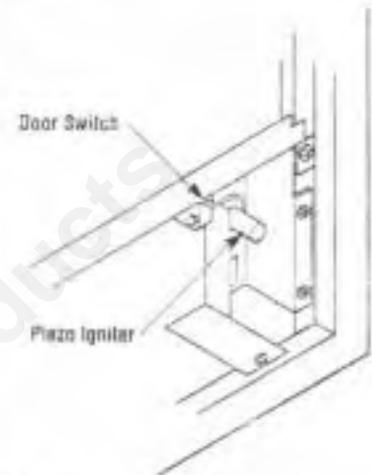
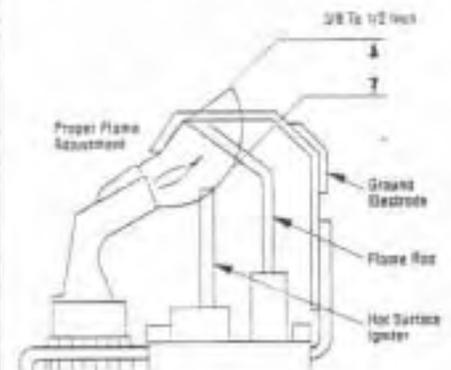

Figure 42
Figure 43
***Note:** To operate the appliance while leak testing, ensure that the door switch is depressed or the unit will not light (refer to Figure 42).
To light the burner, turn "ON" the remote wall switch, manually depress and hold the door switch (Figure 42) and rotate the gas valve control knob counterclockwise to the "ON" position ("ON" will be at the bottom side of the valve).
To light the burner, turn "ON" the optional remote wall switch, manually depress and hold the door switch (Figure 42) and turn the gas control switch to the "ON" position. Ensure the ignitor lights the pilot. The pilot flame should engulf the flame rod as shown in Figure 43.